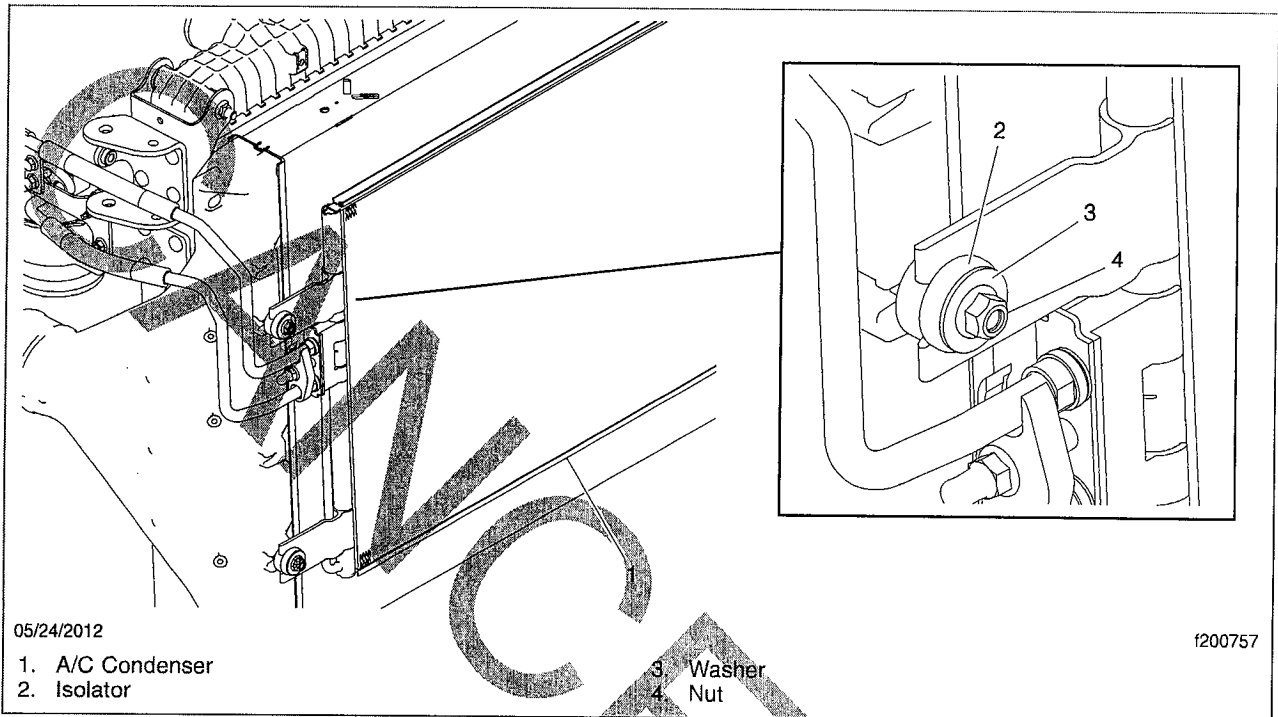

Fig. 3, A/C Condenser Installation
- 12.2 Unbolt the A/C condenser from the CAC. See **Fig. 3**.
- 39.1 Move the condenser into position and secure it temporarily. See **Fig. 3**.